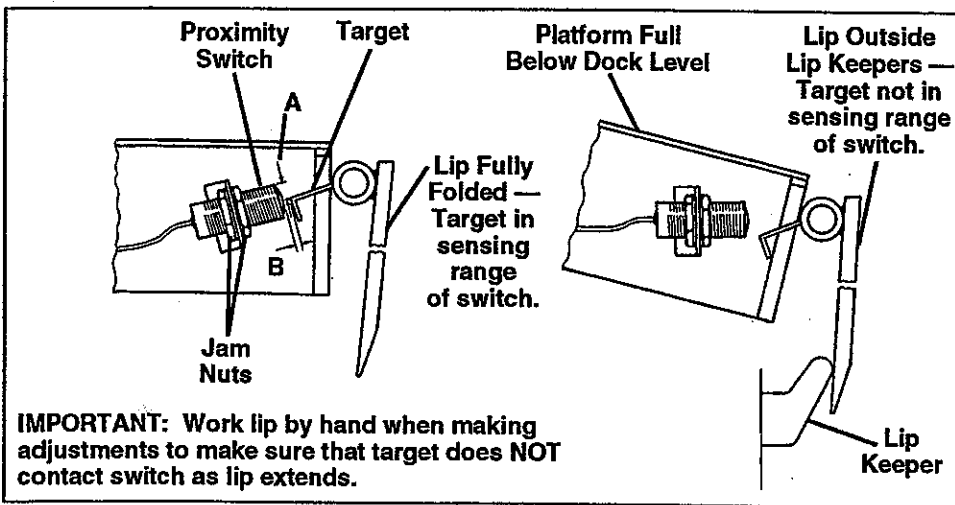

Fig. 37. Proximity Switch Adjustment
3. Press the RAISE pushbutton. The dock leveler should **NOT** raise. If the leveler did not raise, proceed with step 4. If the leveler did raise, decrease dimension "A" or "B", Figure 37, so that the target is in the sensing range of the switch. Typical factory settings for "A" and "B" are approximately 3/4" and 1/8" respectively. Make adjustments at switch (dimension B) and/or target (dimension A) until leveler does not raise when the truck restraint is not engaged at truck/trailer ICC bar.
switch as shown in Figure 37. Make adjustments at switch and/or target until restraint does not disengage truck/trailer ICC bar when the dock leveler is at the full below dock position.